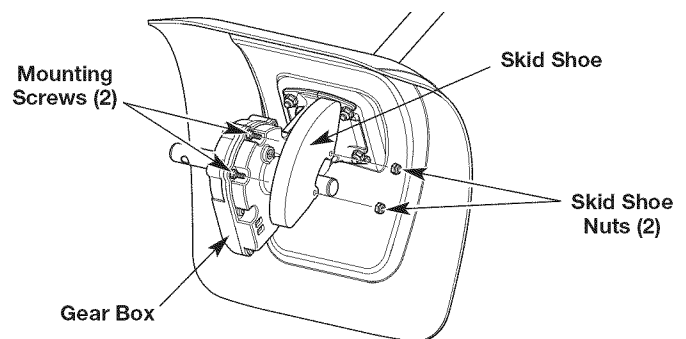

Fig. 7
1. Use a 3/8 inch wrench to remove the two skid shoe nuts. Remove the skid shoe from the gear box (Fig. 7).
2. Place the new skid shoe onto the two mounting screws on the gear box (Fig. 7).
3. Place the two skid shoe nuts onto the mounting screws. Use a 3/8 inch wrench to tighten the skid shoe nuts securely (Fig. 7).